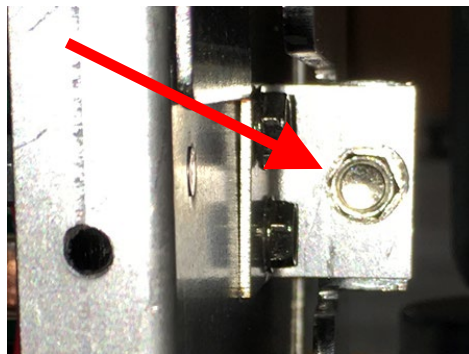

**Figure 8**
10. Remove the filter pan lid by lifting up on the collar, around the drain tube, while pulling on the filter pan lid (see Figure 8)